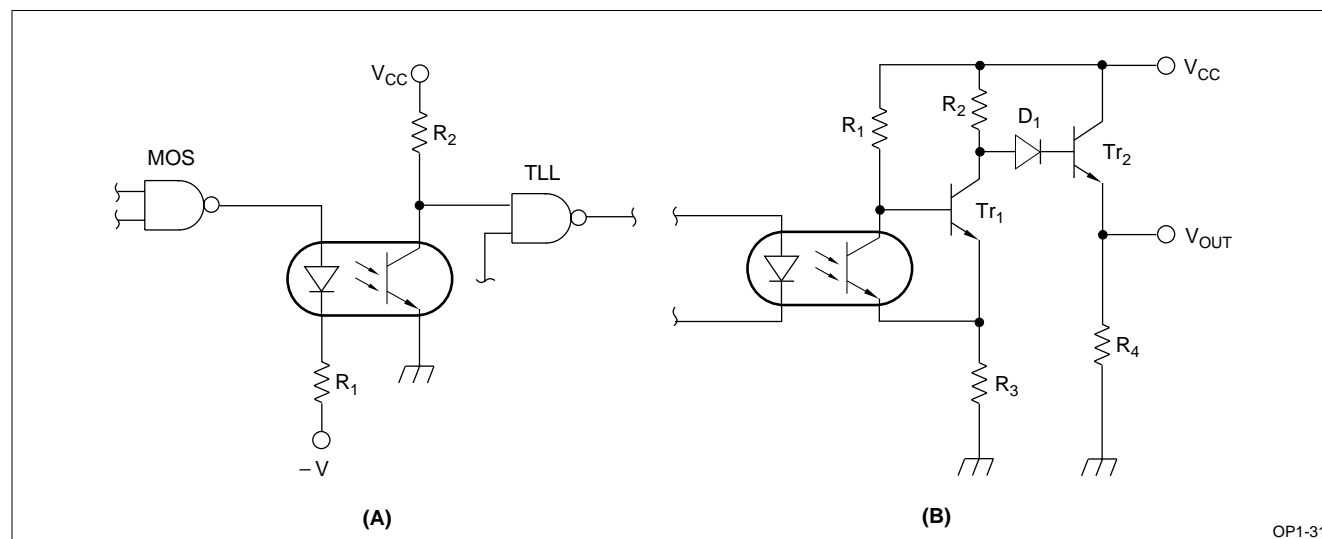

Figure 3. Level Conversion Circuit
Figure 3 shows simple level converters using a photocoupler. The circuit simple level converters using a photocoupler. The circuit shown in Figure 3 (A) converts the MOS level to the TTL level. Because of the small output current from the MOS IC, a photocoupler with a high current transfer ratio (CTR) at low input is required.
The circuit shown in Figure 3 (B) is a Schmitt trigger arranged using a photocoupler and transistor and a convert signal into an arbitrary level.